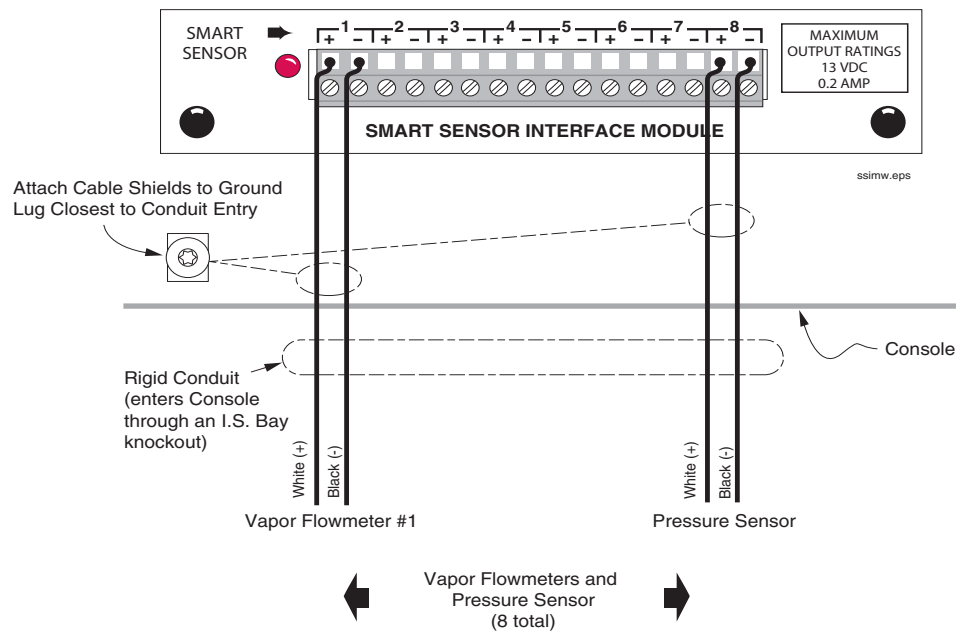

Figure 6. Direct Wiring Vapor Flow Meter to Smart Sensor Interface Module
3. Terminate field wiring into TLS Console and connect to Smart Sensor Module located in the intrinsically safe wiring compartment of the TLS as shown in Figure 6. Note: you must observe polarity! Also, the cable length between the console and sensor must not exceed the distance stated in the TLS-3XX Site Prep manual (P/N 576013-879). For the wireless version, terminate the wires in the TLS RF transmitter (W2).